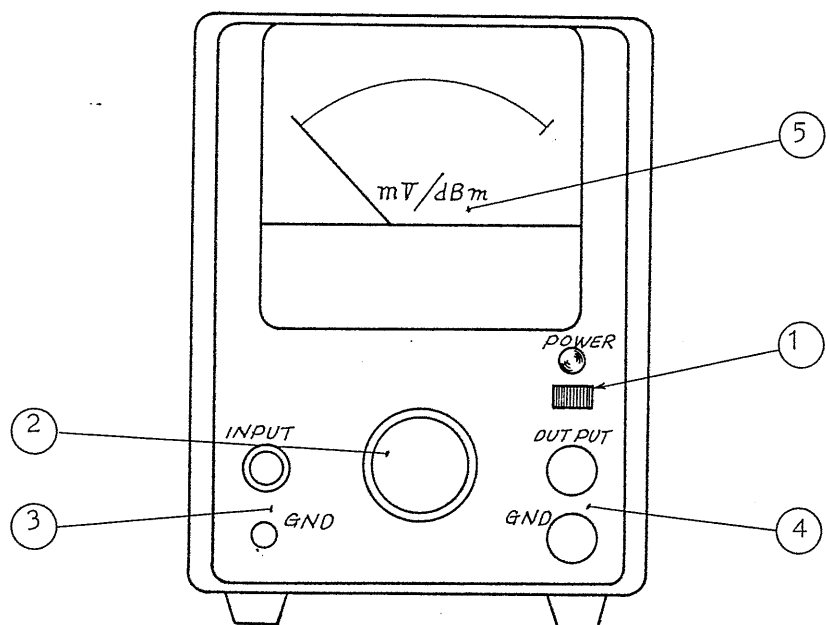

Fig. 3-2
3.1 Parts on front panel (See Fig. 3-2)
- ① POWER A push button switch turning on and off power supply, and the power is supplied in the state that the button is pushed and stands back, and when the button is pushed again, the power is turned off. For about 10 seconds after the switch is turned on, the meter pointer may possibly deflect irregularly.
- ② Range Black dial in the center of the panel. 10 ranges; 15 mV ~ 500V (clockwise)
- ③ INPUT terminals Terminals to which the voltage to be measured will be connected. They consist of a UHF receptacle and a GND (ground) terminal.